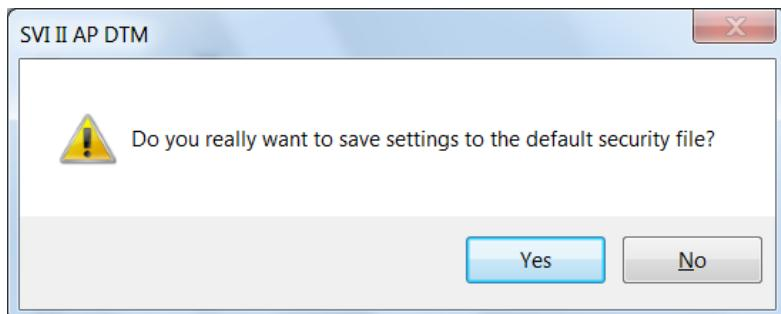

Figure 109 Save Security Settings to Default File Confirmation
1. Click  and a confirmation dialog appears (Figure 109).